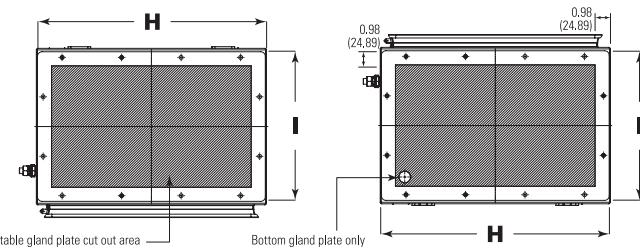

Figure 2 – Gland plate dimensional drawing
- Select a mounting location that will provide suitable strength and rigidity for supporting the STE main breaker and all components. Only stainless-steel hardware with suitable strength should be used for mounting. Install two (2) bottom mounting screws loosely.
- Align enclosure with the two (2) slotted mounting feet on installed screws. While continuing to support the enclosure in position, install the top two (2) screws and tighten the bottom two (2) screws. Securely torque all screws around enclosure before removing support.
- Remove gland plates and drill desired conduit entries in accordance with the spacing chart for Myers™ hubs (under Technical Data section) and the gland plate dimensional drawing (see Figure 2).